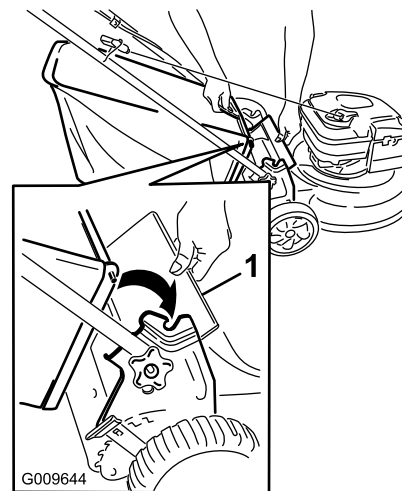

Figure 17
1. Lift up the rear deflector (Figure 17).
2. Insert the grass bag handle onto the notches on the handle brackets (Figure 17).